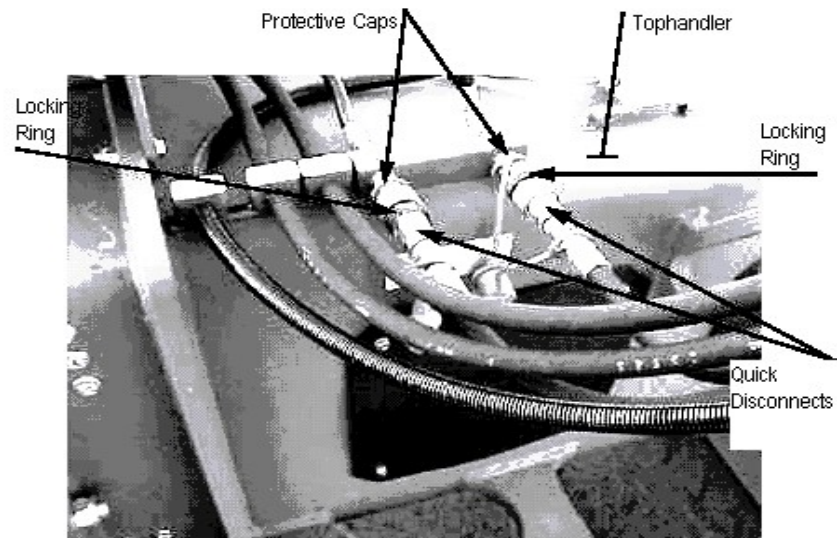

Figure 3-187
4. Release locking rings to disconnect two hydraulic hose quick disconnects, located on top left side of the tophandler and install protective caps on connectors (see Figure 3-187).